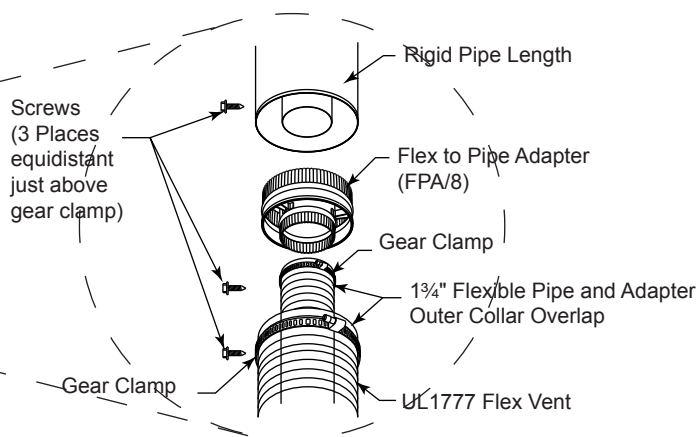

Figure 27 - Typical Pipe Connection
2. Review *Figure 27* and corresponding instructions for proper overlap, clamp and screw placement.